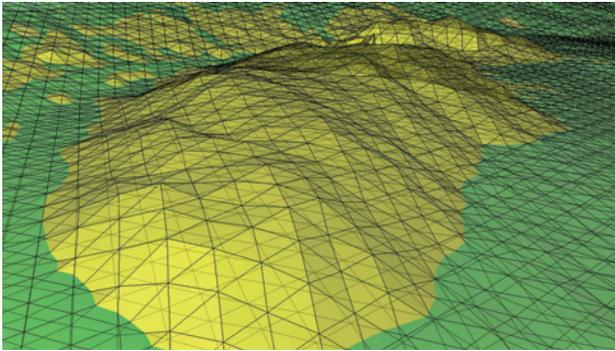

Figure 2: Wire mesh model of earthworks used to verify quantities of delivered materials
- While building, mobile mapping provides an ongoing source of rich 3D data for a variety of functions. Whether collecting and verifying earthwork quantities (Figure 2) or matching cross-slopes for paving, the Lynx Mobile Mapper is extremely versatile.